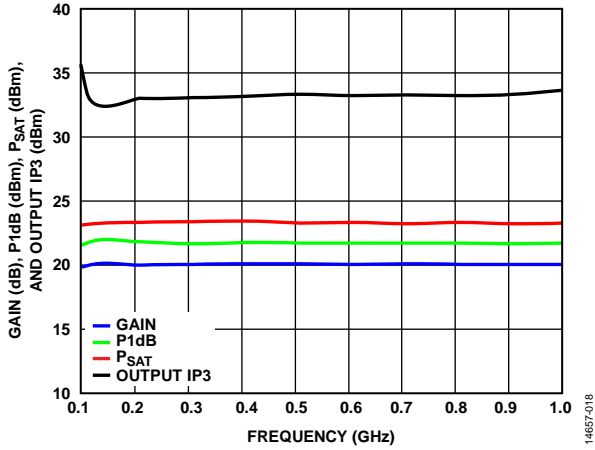
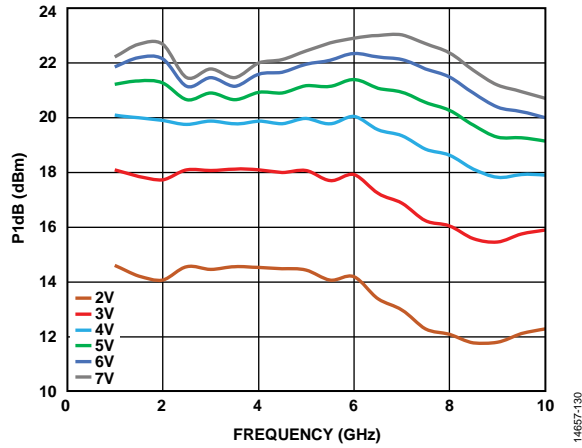
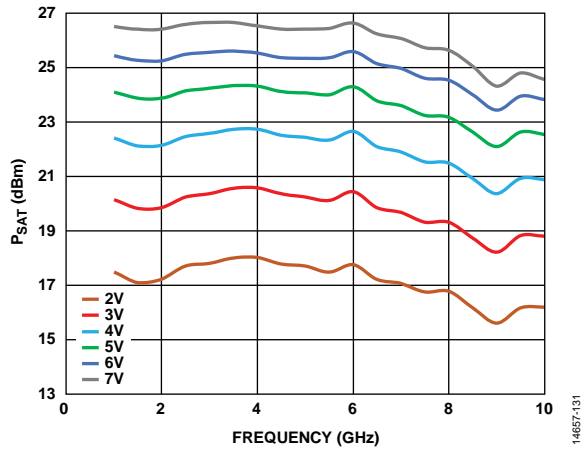

Figure 18. Gain, P1dB, P_{SAT} , and Output IP3 vs. Frequency
Figure 30. P1dB vs. Frequency for Various Supply Voltages, $I_{DQ} = 65 \text{ mA}$
Figure 31. P_{SAT} vs. Frequency for Various Supply Voltages, $I_{DQ} = 65 \text{ mA}$
Figure 18, Figure 30, and Figure 31 show that increasing the voltage from 2 V to 7 V typically increases P_{1dB} and P_{SAT} at the expense of power consumption with minor degradation on noise figure (NF).